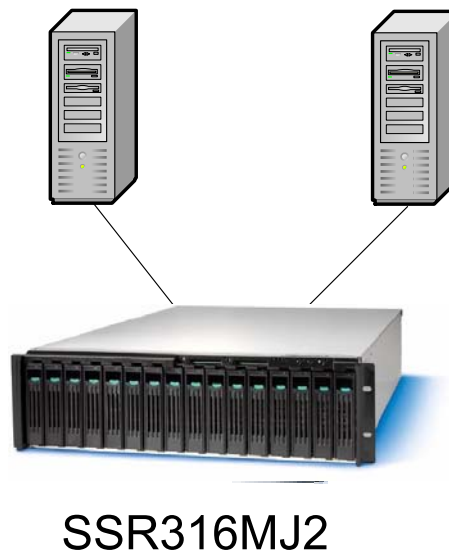

Figure 1. Ethernet Direct Attach
- A. Configure the SSR316MJ2 system to one or multiple Server Clients as shown below using the two SSR316MJ2 integrated NIC ports¹. See Figure 1.